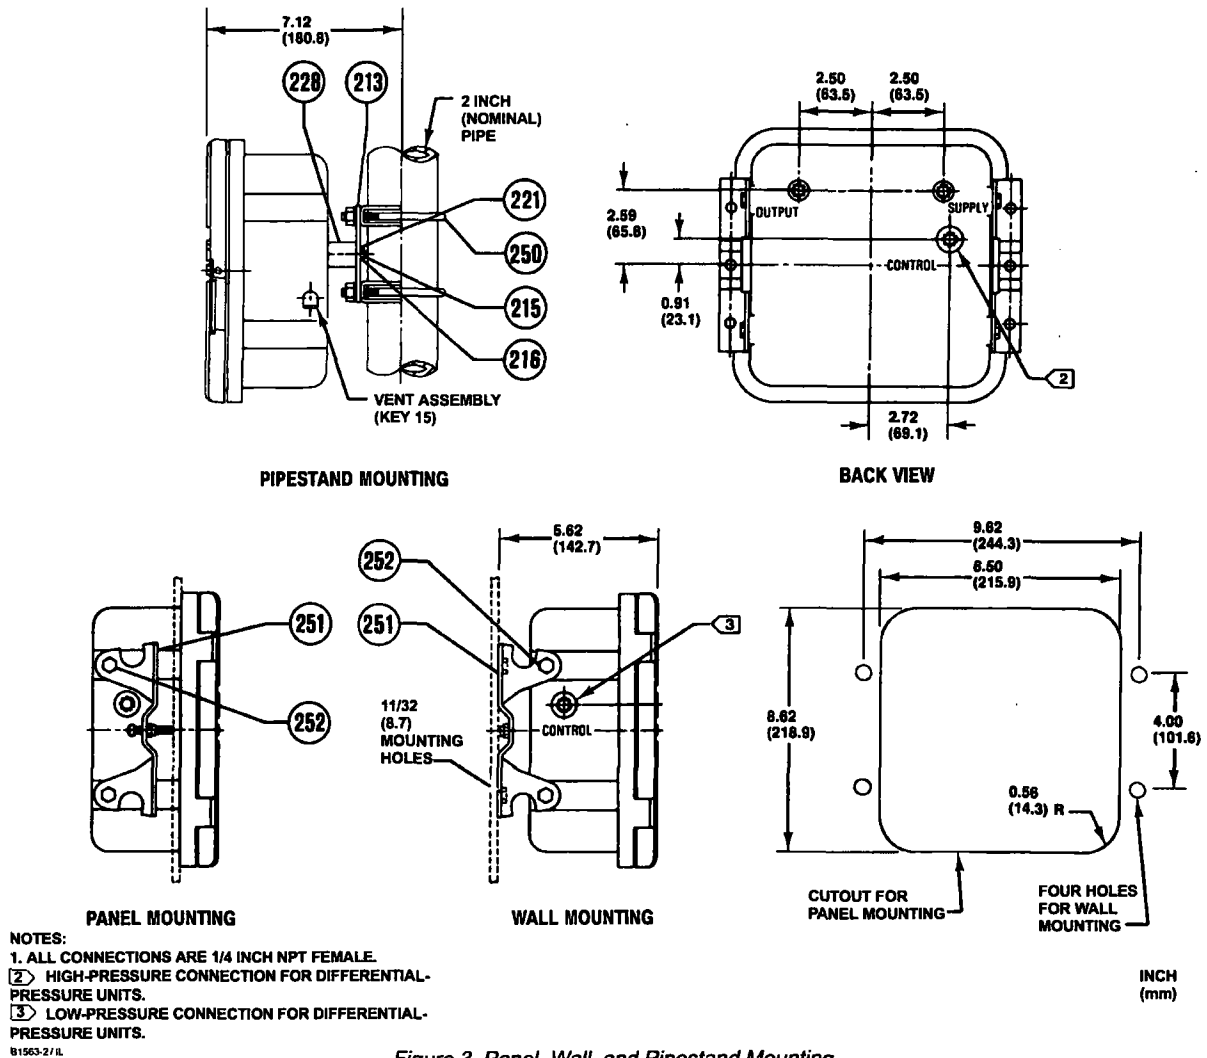

Figure 3. Panel, Wall, and Pipestand Mounting
Refer to figure 3.
Drill four holes in the wall using the dimensions shown in figure 3. In the bracket (key 251) are 11/32-inch (8.7 mm) diameter holes. Back out the cap screw located in the center of each bracket. (The screws are used for panel mounting but are not required for wall mounting.) If tubing runs through the wall, drill holes in the wall to accommodate the tubings. Figure 3 shows the pressure connection locations in the back of the case.
All pressure connections on 4150K and 4160K Series instruments are 1/4-inch NPT female. Use 1/4-inch (6 mm) or 3/8-inch (10 mm) pipe or tubing for supply and output piping. The pressure connection locations are shown in figure 3.
For gauge pressure instruments: The control pressure block (key 8 in figure 19) has two connections. Process pressure can be connected either to the CONTROL connection on the back of the case, or to the connection on the left side of the case, shown in figure 3, depending on the instrument application. Plug the unused connection.
For differential pressure instruments: Connect the low pressure line to the CONTROL connection on the side of the case and the high pressure line to the CONTROL connection on the back of the case as shown in figure 3.
The vent assembly (key 15, figure 3) or the end of a remote vent pipe must be protected against the entrance of all foreign matter that could plug the vent. Use 1/2-inch (13 mm) pipe for the remote vent pipe, if one is required. Check the vent periodically to be certain it has not become plugged.